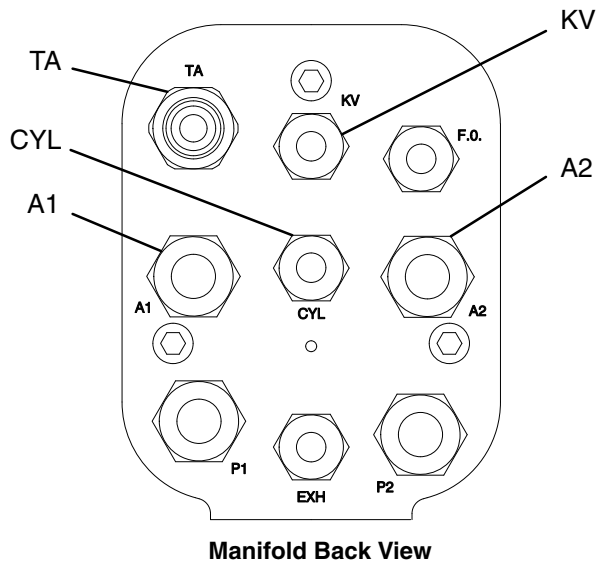

Fig. 13
4. Use the air pressure regulator on the atomization air supply line (A1) to adjust the degree of atomization. Refer to Fig. 13. For example, for a fluid flow rate of 10 ounces per minute (0.3 liters/min.), a typical atomization pressure would be 20 to 30 psi (1.4 to 2.1 bar) at the gun manifold.
1. Make sure the fan (A2) and atomizing (A1) air are on, then turn on the turbine air (TA). Refer to Fig. 13.
Apply a minimum of 50 psi (3.5 bar) air pressure to the kV switch air fitting (KV) to activate it and switch to the lower voltage setting. Refer to Fig. 13. The lower voltage setting is factory set to 60 kilovolts at zero micro-amperes. To change this setting, see page 36.
1. Apply a minimum of 50 psi (3.5 bar) air pressure to the cylinder air fitting (CYL) to activate the on/off sequence of atomization air (A1), fan air (A2), and fluid (P1). Refer to Fig. 13.
2. Turn the gun functions off and on by using the air solenoid valves on the cylinder (CYL) and turbine (TA) air supply lines.